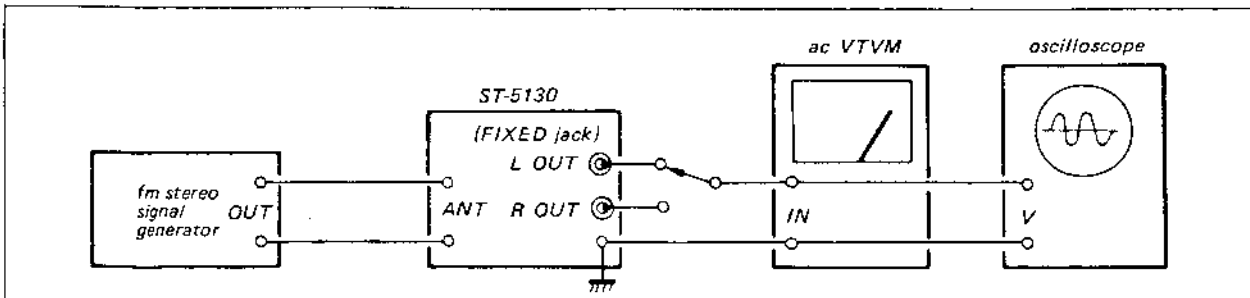

Fig. 3-6. Fm stereo separation adjustment test setup
1. Connect the equipment as shown in Fig. 3-6, then set the fm stereo signal generator controls as follows: